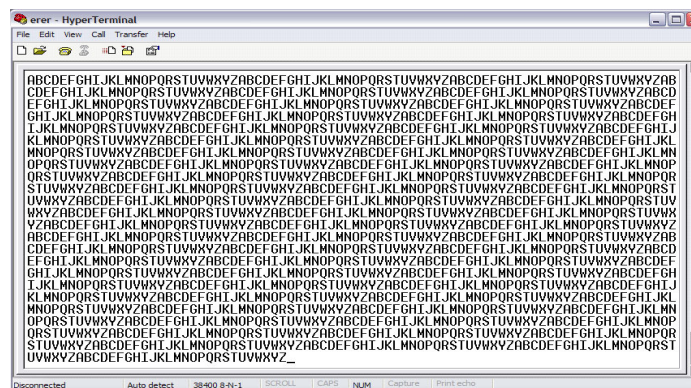

Figure 49. WirelessUART Expected Result
12. On the PC that is running the HyperTerminal application and is connected to the board running the WirelessUART application, the expected end result is shown in Figure 49. If this is not the end result, try running the WirelessUART application on the SPTC again.